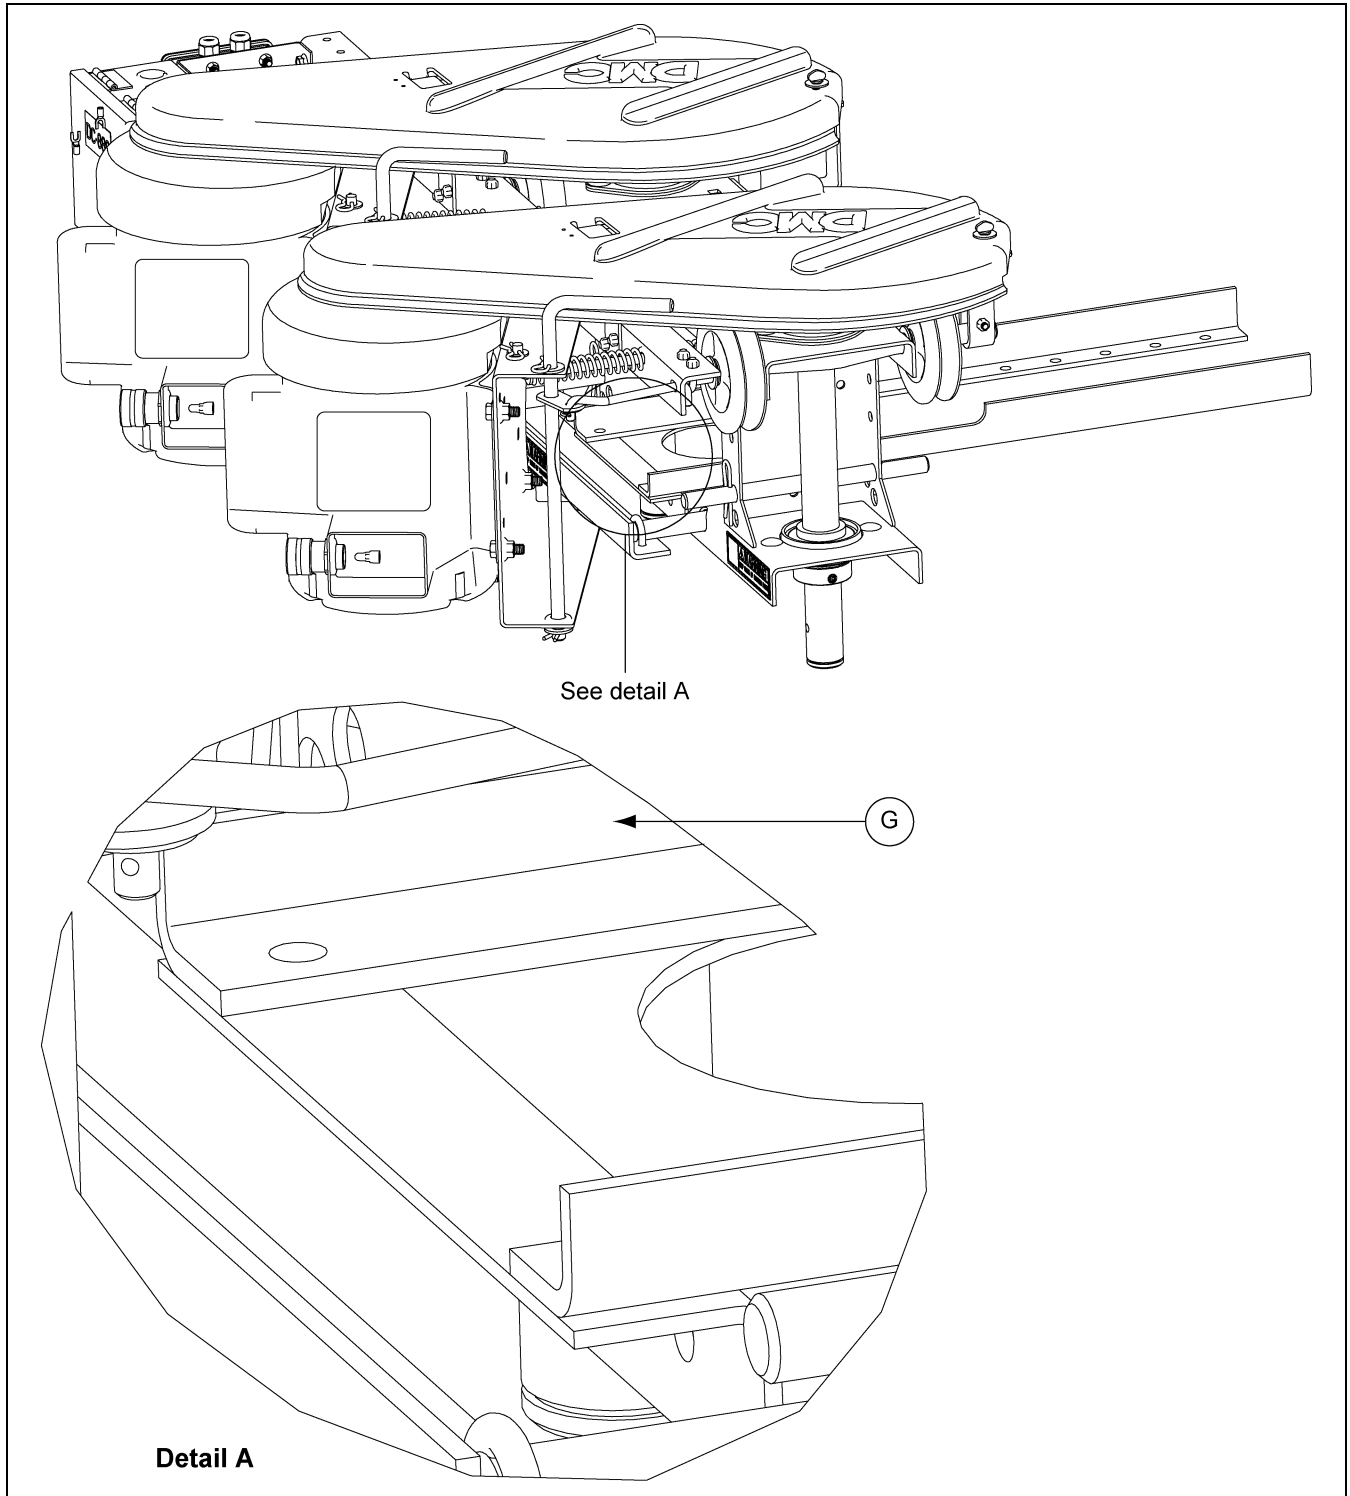

Figure 4
2. Bolt the lower angle brackets to the trolley frame using bolts (G). (See Figure 4 on Page 4.)